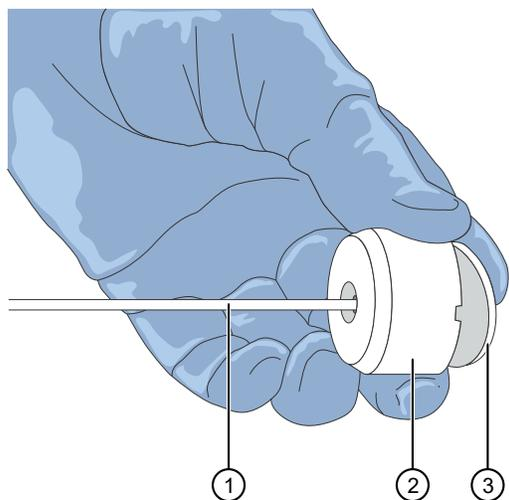

Figure 65 Components of the reagent buffer supply line and filter.
2. Carefully remove the filter from the end of the filter body (see Figure 65).